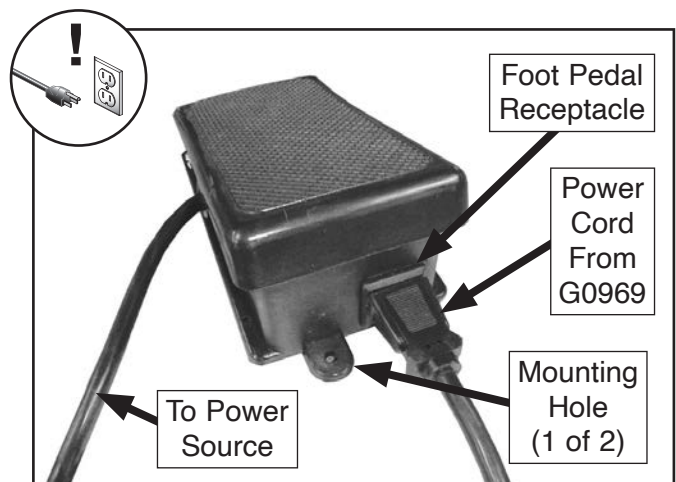

Figure 29. Foot pedal connections.
2. Connect scroll saw power cord to plug on foot pedal (see **Figure 29**).